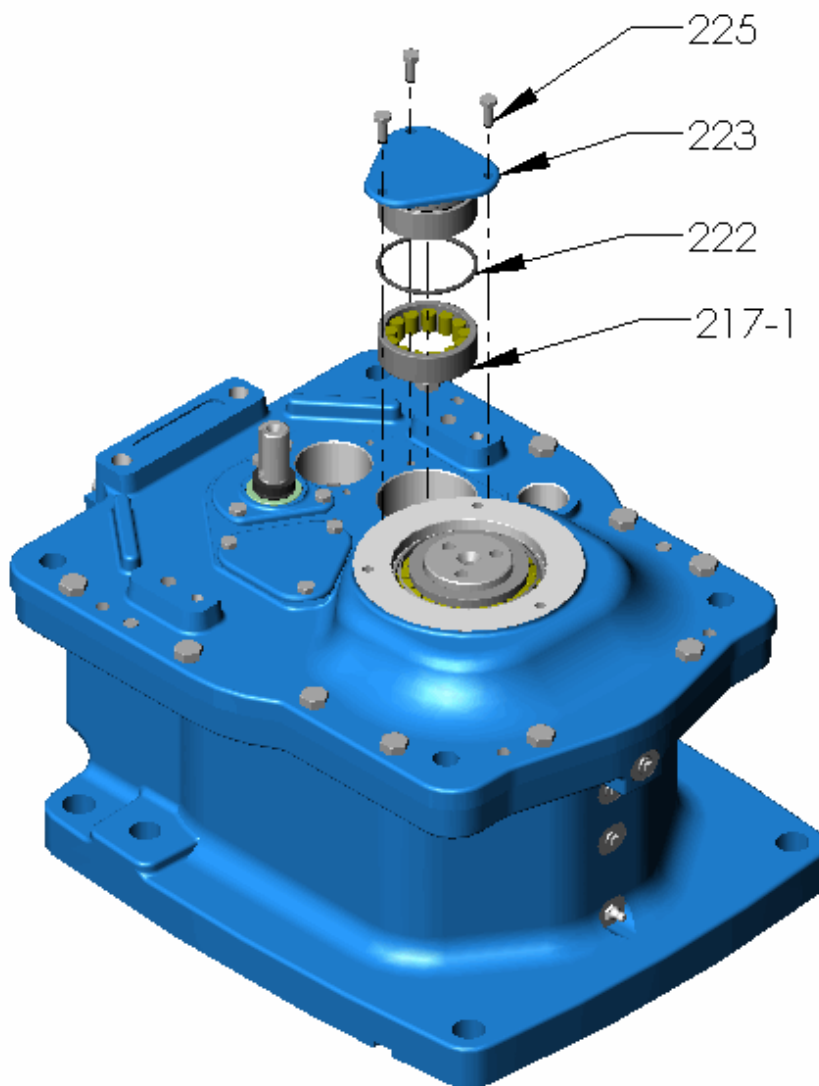

Figure 22 – 2nd Intermediate Cap
- T. At 2nd intermediate shaft, install following items (refer Figure 22):